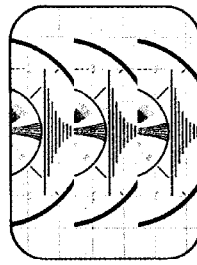

FIG. 7—VERTICAL MOVEMENT
9. **VERTICAL HOLD**—Should the picture appear to roll by in a vertical direction or cause multiple vertical fringes as shown in Figure 7, it will be necessary to adjust the "Vertical Hold" control located behind the name plate escutcheon (see Figure 5). After this adjustment is made, reduce contrast until picture is barely visible and check setting of "Vertical Hold" control for proper picture synchronization.